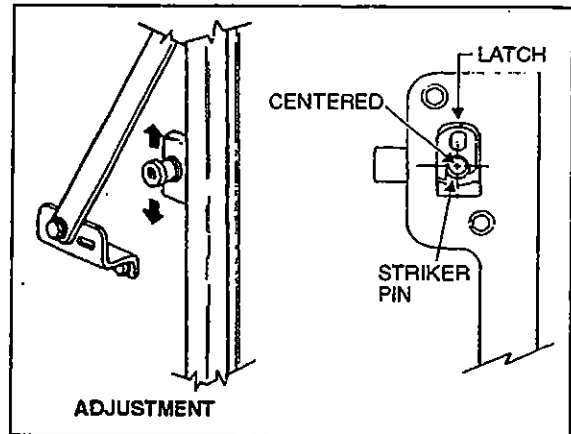

Figure 25
8. Install both striker pins, bring the door close to them, and adjust the height of pins so they are well centered with latches. Refer to figure 25.